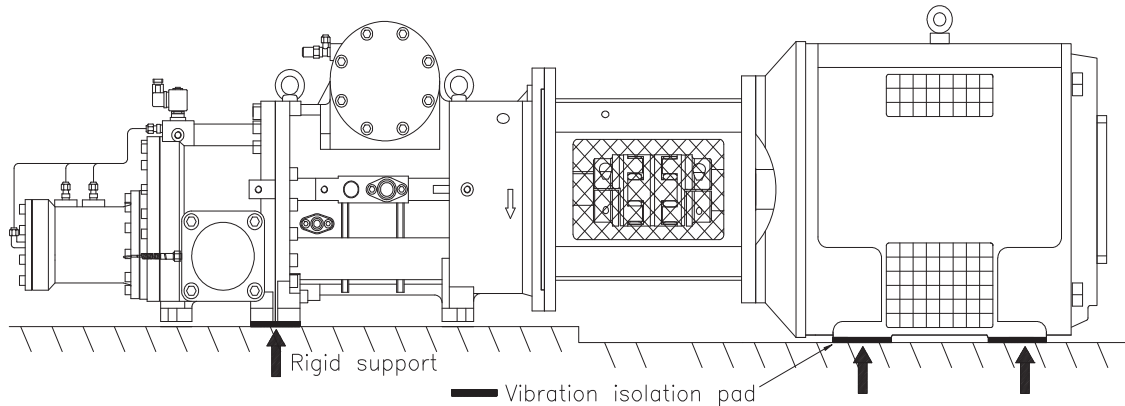

Fig. 4.5 Centering work with coupling housing
- c. Use vibration isolation pad below compressor and motor. (Refer to fig. 4.5)